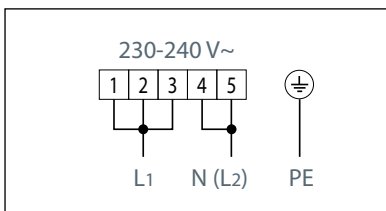

Fig. 19a Connection diagram
- 2 Position the U bolts "C" onto five-pole terminal block "B" according to the diagram in Fig. 19a.
- 4 Connect the phase wires to the terminal block "B" and the earth wire to the terminal "PE" as shown in Figs. 19a-19b.